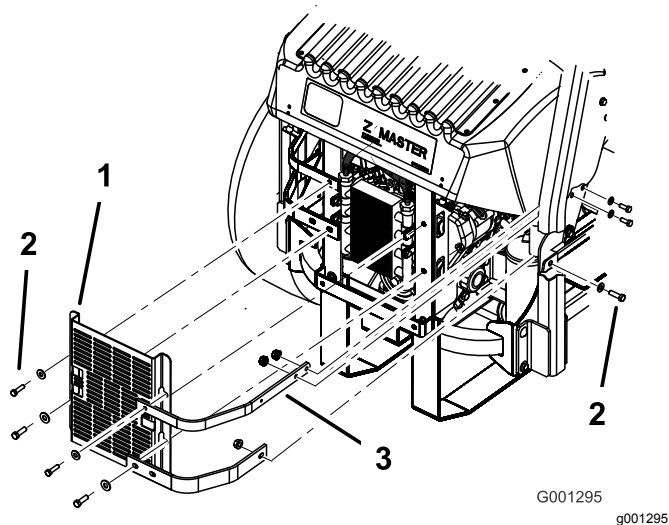

Figure 78
3. Remove the 4 bolts holding the oil cooler shield to the rear frame (Figure 78).
4. Remove the 3 bolts holding the engine straps to the side of the machine (Figure 78).
12. Install the oil cooler shield and engine straps to the rear frame with the 4 bolts previously removed (Figure 78).
13. Install the engine straps to the side of the machine (Figure 78).